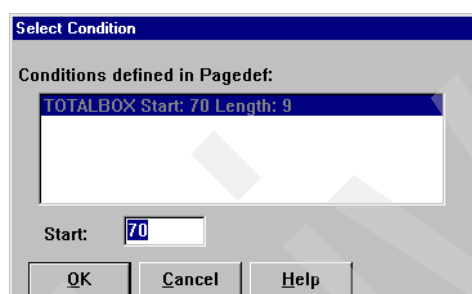

Figure 37. Select Condition
15. Click the **Cond. Reference** icon in the toolbar and drag it down to the **R[51]** line. When you release the mouse, the Select Condition dialog (Figure 37) displays. You see a list of existing conditions defined in the page definition. Click the condition that was created earlier, **TOTALBOX**, and click **OK**.